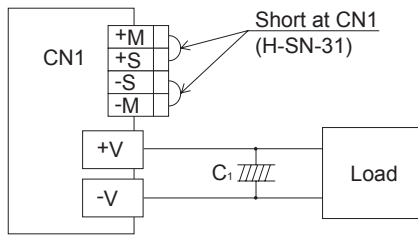
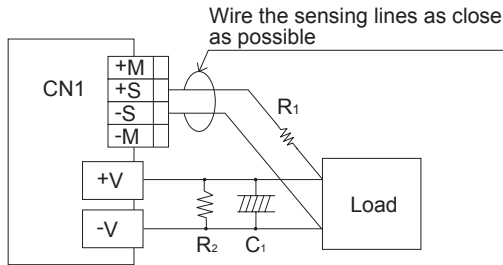

Fig.5.8 When not using remote sensing function
Fig.5.9 When using remote sensing function
- The wire connection when remote sensing is used or not used is shown in Fig. 5.8 - Fig. 5.9.
- ① Wiring must be done carefully. If there is bad connection on the load lines due to loose screws, etc., the load current flows into the sensing lines and the internal circuit of the power supply may be damaged.
- ② Make sure the wires between the load and the power supply are thick enough to keep the line drop less than 0.3V.
- ③ If the sensing wires are long, place C1 and R1 across the load lines.
- ④ Use a twisted pair wire or a shielded wire for the sensing lines.
- ⑤ Do not draw the output current from +M, -M, +S or -S.
- ⑥ The impedance of the wiring or the load may cause the output voltage to oscillate or fluctuate.